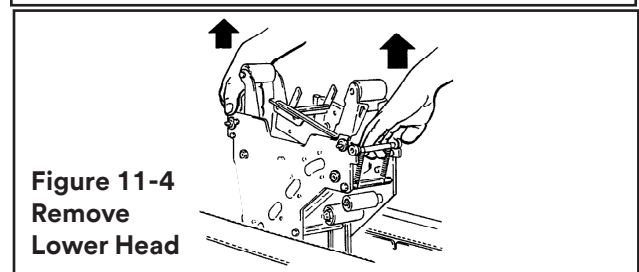

Figure 11-4
4. Lift the lower taping head, shown in Figure 11-4, straight up to remove it from the case sealer bed.